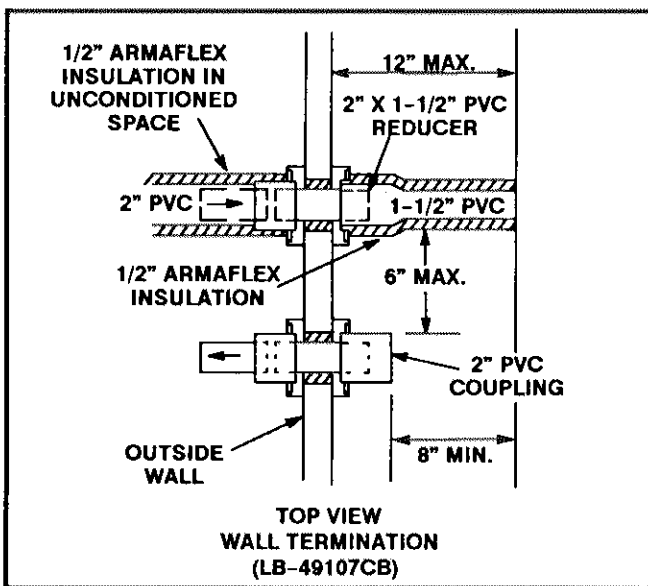

FIGURE 5
- 6- On side wall exits, exhaust piping should extend a maximum of 12 inches beyond the outside wall. Intake piping should be as short as possible. See figure 5.